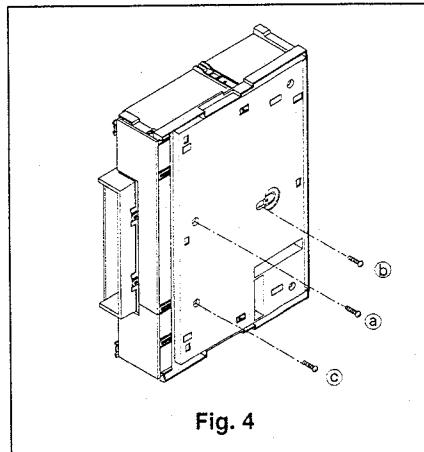

Fig. 4
- ③ Remove the three fastening screws (④, ⑤ and ⑥) on the bottom of the set shown in Fig. 4.